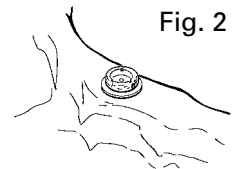

Fig. 2
2. Place a White Block-Out Spacer (636070 Package) over the head of each Locator Abutment. (Fig. 2) The spacer is used to block out the area immediately surrounding the abutment. The space created will allow the full resilient function of the pivoting metal denture cap over the Locator Male.